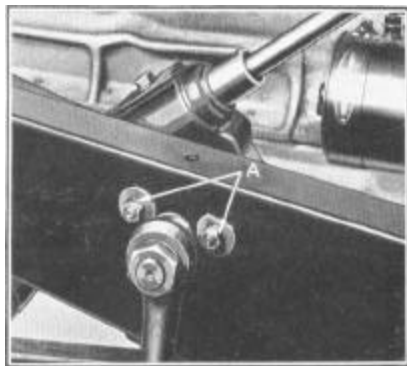

Figure 48
Loosen the three gear housing bolt nuts (A) (one not shown), Figure 48, just enough to allow gear to shift in frame to line up at angle determined by height setting of instrument panel gear bracket and retighten gear housing bolt nuts
To raise or lower steering wheel to suit the requirements of the driver, loosen three gear housing bolt nuts (A) (one not shown), Figure 48, as well as steering column bracket nuts under the instrument panel. Set wheel in desired position, insert or remove shims and tighten column bracket nuts. Turn steering wheel to right and left to align gear on frame and tighten frame bracket nuts.